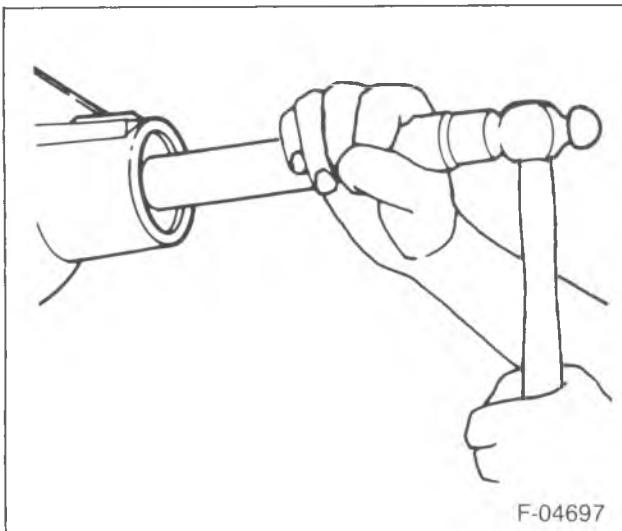

Figure 9—Front Pinion Bearing Cup Installation
- Front pinion bearing cup using J 8611-01 and J 8092 (figure 9).